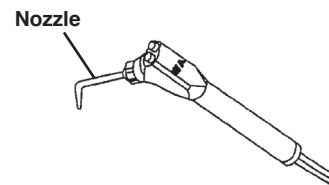

Fig.5-2 Belmont 77 Syringe
3. Belmont 77 Syringe (Fig.5-2)